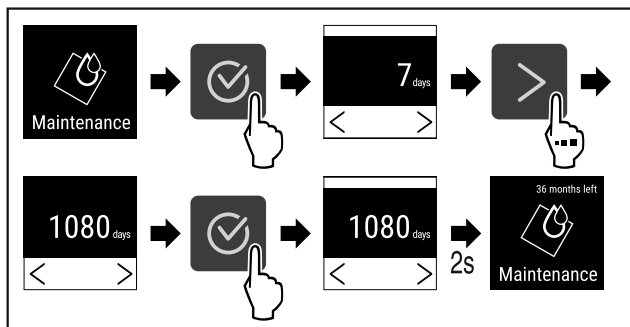

Fig. 75
- ▶ Complete steps (see Fig. 75) .